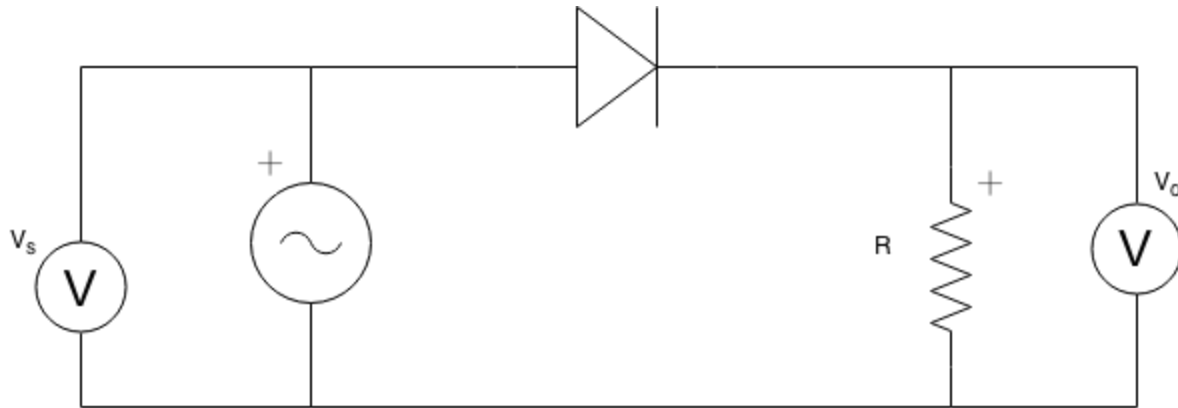

Figure 1
1. A circuit was built using an $R=15\Omega$ resistor (See Figure 1).